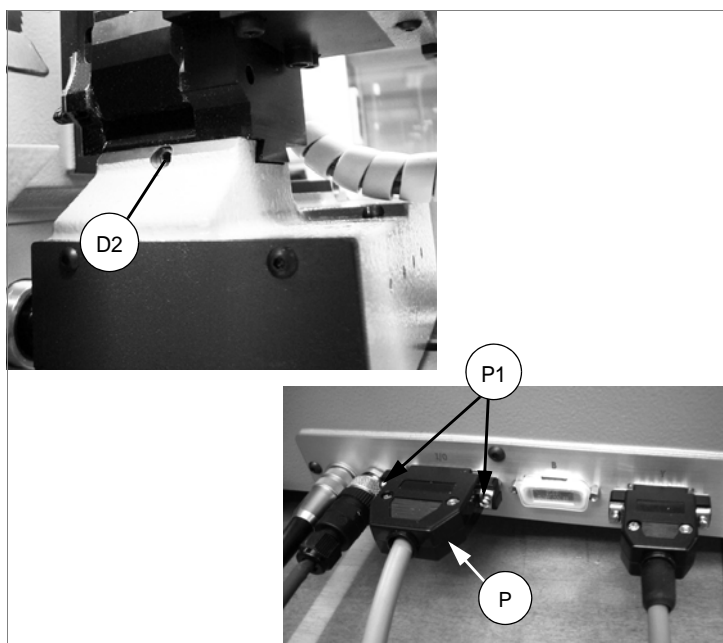

Fig. 7
- 7) connect the serial connection cable on the feeder to the connector (P) situated on the right-hand side of the key-cutting machine (fig. 2, page 5) and secure by tightening the two screws (P1) (fig. 7);